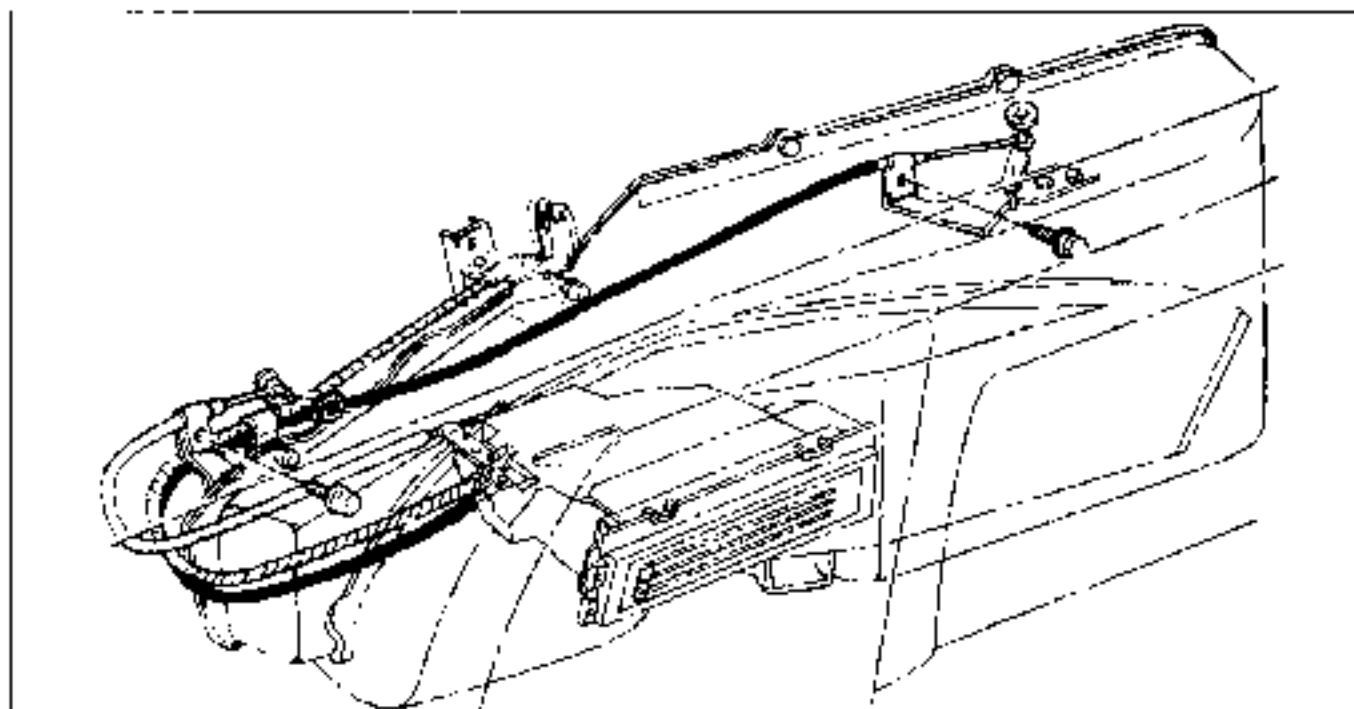

Fig. 1-3 Control Panel Controls Alouche-Firebird
1. Remove instrument panel trim plate (Fig. 1-3).
1. Remove glove compartment (Fig. 1-3).
2. Disconnect cable at heater case (Fig. 1-3).
1. Disconnect cable from pivot on heater case (Fig. 1-3).